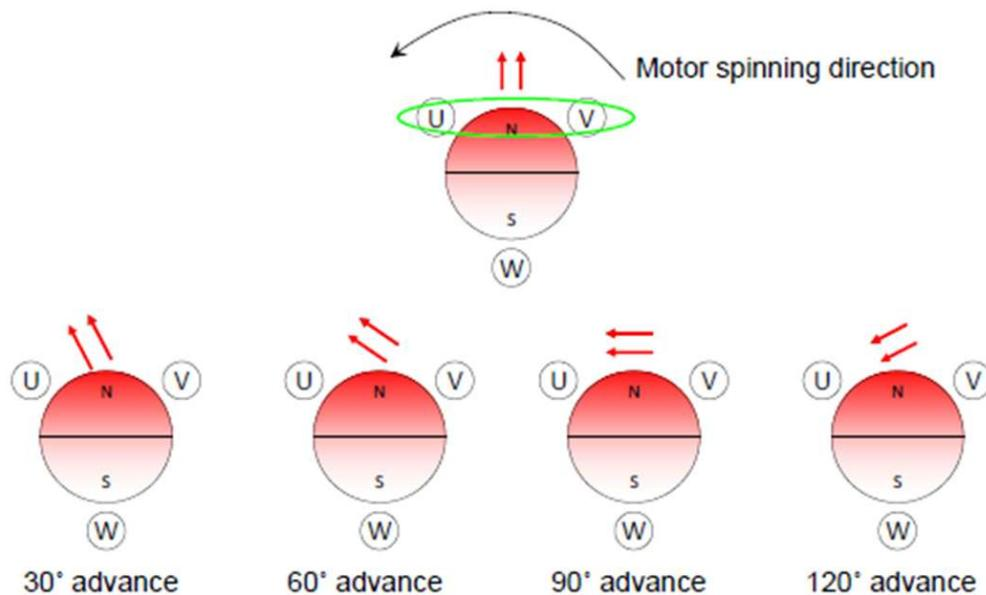

Figure 17. IPD Advance Angle
Step 10. Selection of IPD advance angle After the initial position is detected, the DRV10983x/75 begins driving the motor at an angle specified by IPDAdvAgI[1:0]. Advancing the drive angle anywhere from 0° to 180° results in positive torque. IPD advance angle of 90° results in maximum initial torque. Applying maximum initial torque could result in uneven acceleration to the rotor. Select IPDAdvAgI[1:0] to allow for smooth acceleration in the application (see Figure 17).